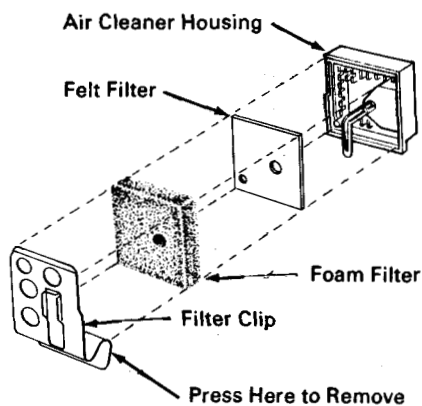

Figure 6
2. Carefully remove the filter clip or filter retainer. Remove the foam filter and felt filter (Figures 6 and 7).
6. Reinstall the felt filter, foam filter, and filter clip or retainer in the air cleaner housing (Figures 6 and 7).